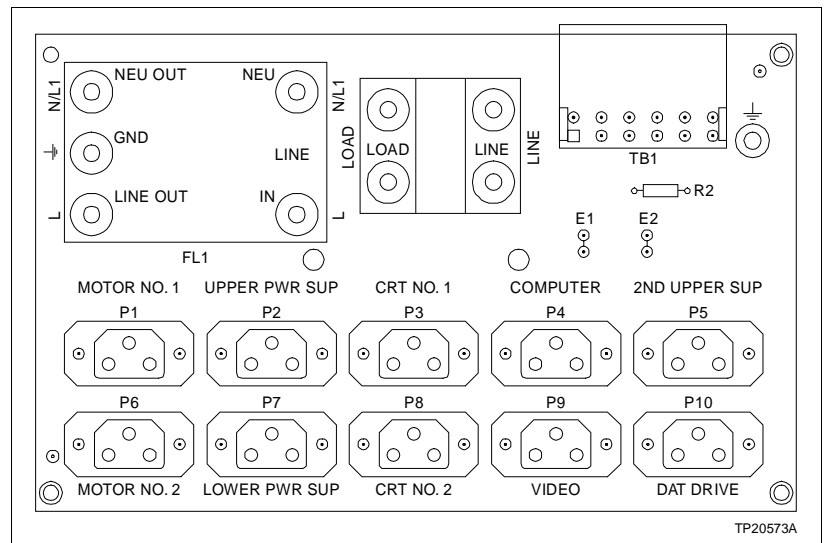

Figure PR31-1. Power Entry Panel (PEP)
2. Connect the lifting mechanism power cable to P6 on the PEP of the adjacent work station (Fig. PR31-1).